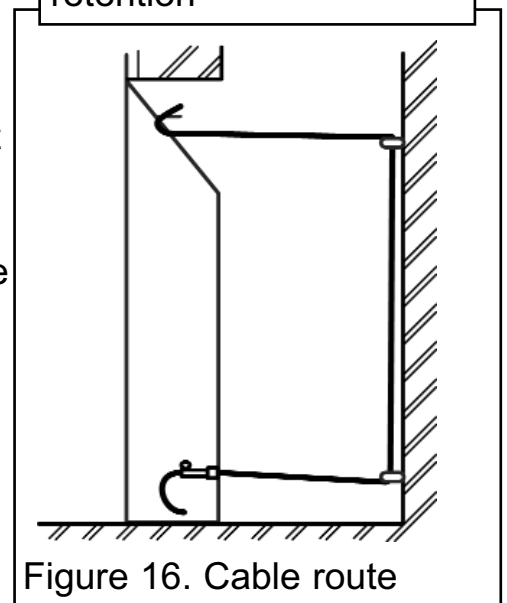

Figure 16. Cable route
6. Thread the cables through the screw eyes. Return the cables through the holes near the bottom of the hotbox side panels (See figure 16).